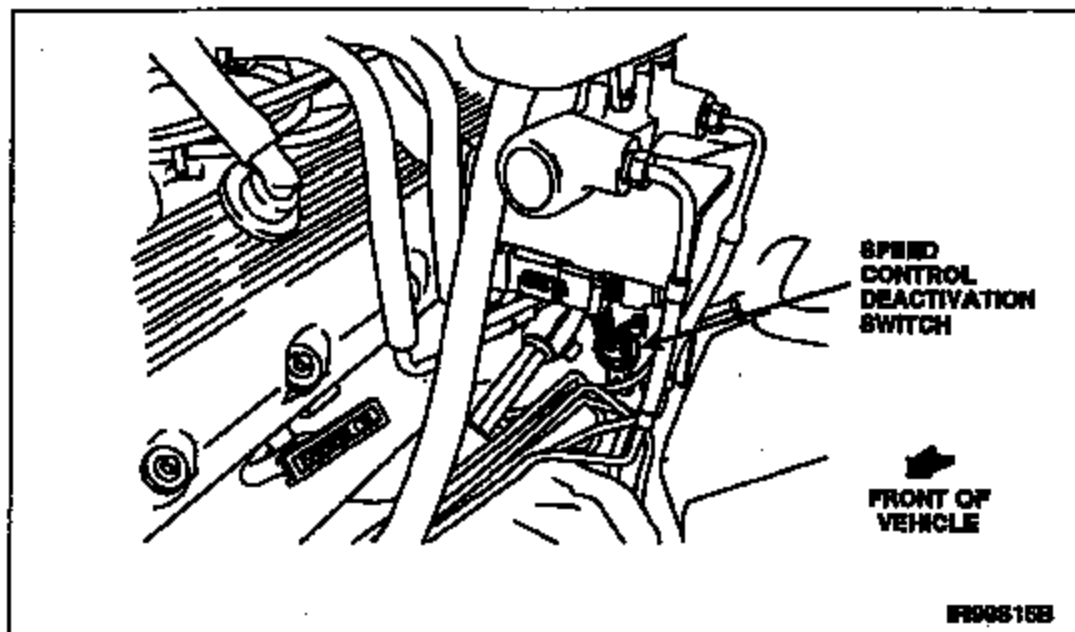

FIGURE 2
2. Disconnect the electrical connector from the speed control deactivation switch. See Figure 2.